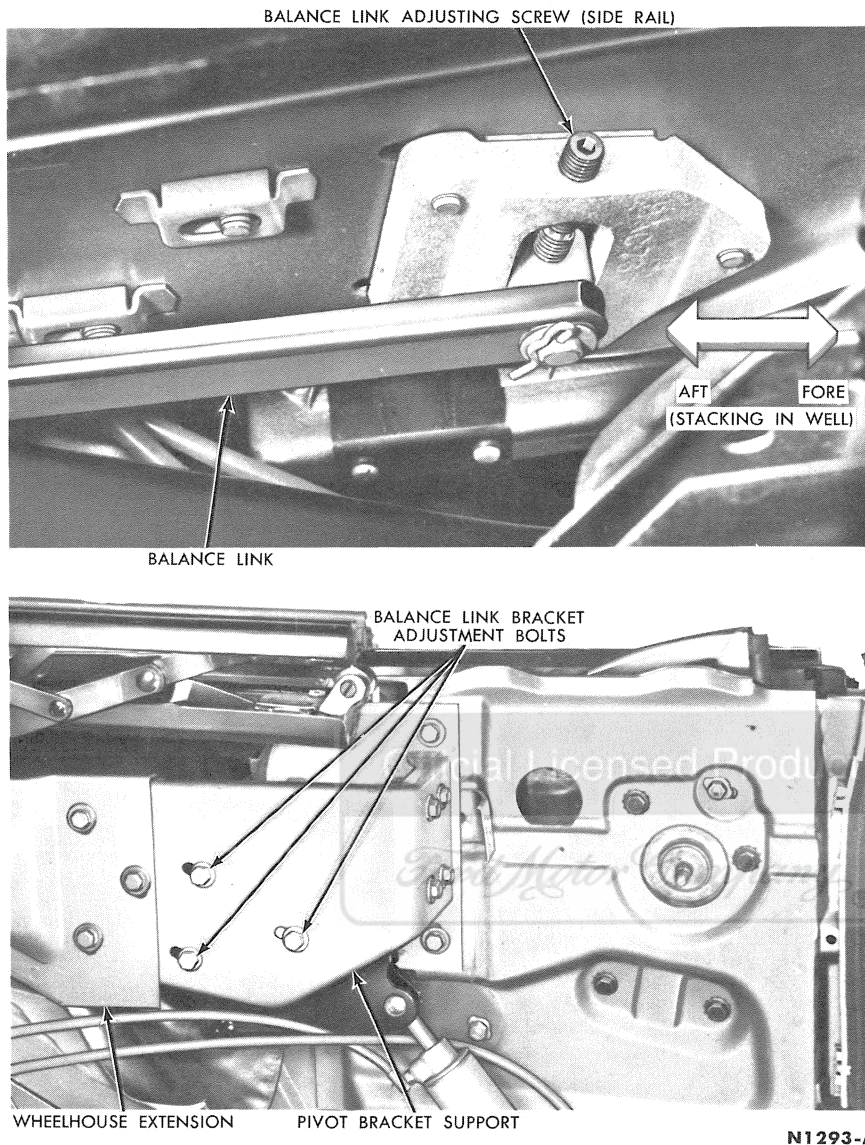

FIG. 4-12—Balance Link and Bracket Adjustment
3. Partially loosen the balance link bracket to main pivot support attaching screws (Fig. 4-12).